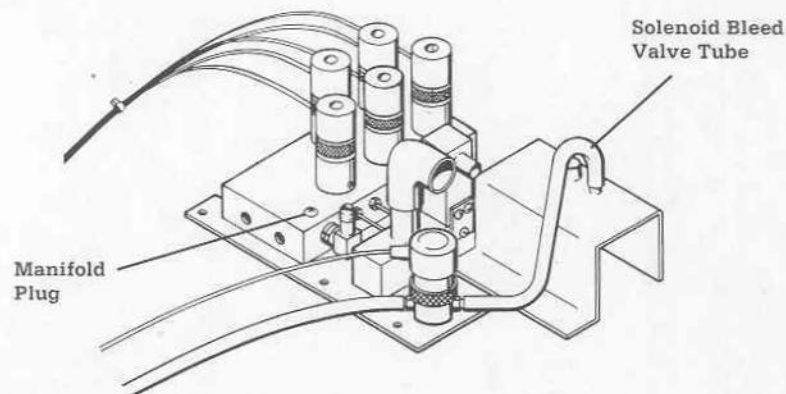

Figure 4-8
3. Remove the manifold plug, (Figure 4-8). Connect an accurate pressure gauge to the manifold where the plug was. The gauge must have a length of tubing attached between it and the manifold such that the gauge will rest on the table beside the ventilator.